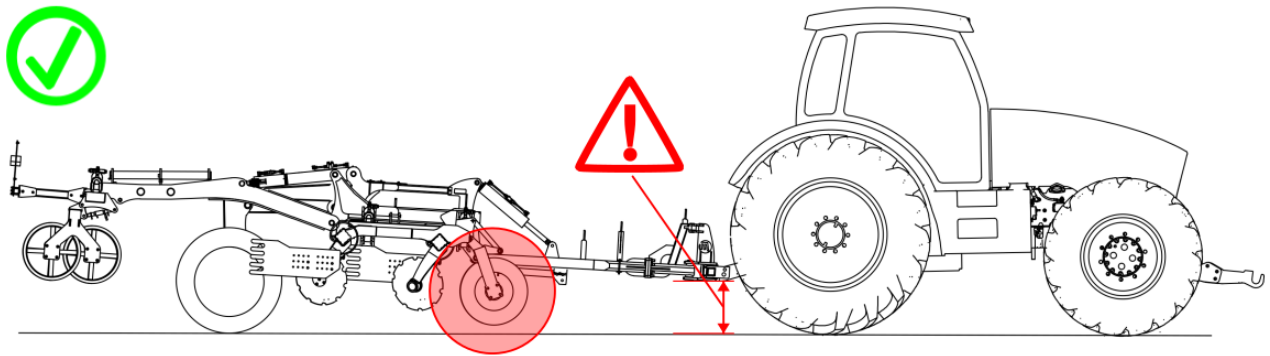

Figure 23 Correct position when turning the machine (look **WARNING !**)
Figure 23 Adjustment of the central screen position and its construction (1 – fastening nuts, 2 – fastening clamps, 3 – screen brackets (mounted to the frame structure), 4 – central screen)
1. Loosen the nuts (Fig. 23, item 1) of the clamps (Fig. 23, item 2) holding the screen,
2. Move the screen (Fig. 23, item 4) on the brackets (Fig. 23, item 3) up or down to the desired position and level it,
3. Tighten the nuts (Fig. 23, item 1) diagonally,